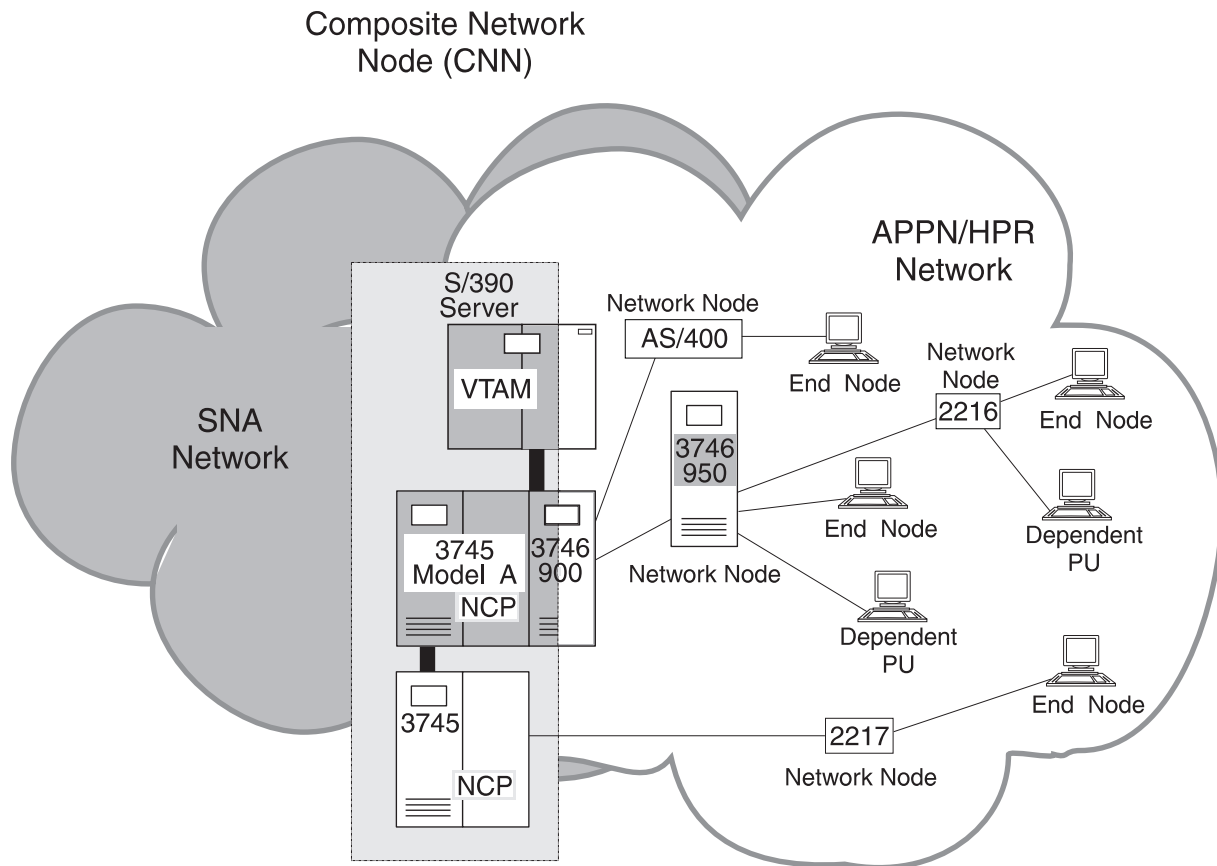

Figure 4-5. APPN/HPR Composite Network Node (CNN) in an APPN/HPR Network
VTAM and NCP can function as a composite network node (CNN), allowing an SNA network to communicate with an APPN/HPR network. A CNN consists of a VTAM and one or more 3745s or 3745/3746-900s working together as an APPN/HPR NN (see Figure 4-5 on page 4-19). The communication controllers of a CNN support APPN and HPR/ANR protocols and appear to an attached node as a single NN. In addition to NN functions, the 3745s and 3746-900s of a CNN support SNA protocols, providing an SNA boundary for attached dependent logical units. A CNN supports ANR for HPR traffic, and allows SNA-based networks to migrate to APPN/HPR-based networks.
The CNN interconnects 3745 NNs, enabling them to be individually upgraded to APPN NNs (for example, replacing the 3745 with the 3746-950). As shown in Figure 4-5, a front-end 3746-900 can operate within a CNN for SNA connections, and also as an APPN NN for any APPN connections that can be moved to the 3746. These connections primarily include:
- All controllers that have migrated to APPN NNs (see the 3746-950 in Figure 4-5).
- Other NNs (see the AS/400 in Figure 4-5).